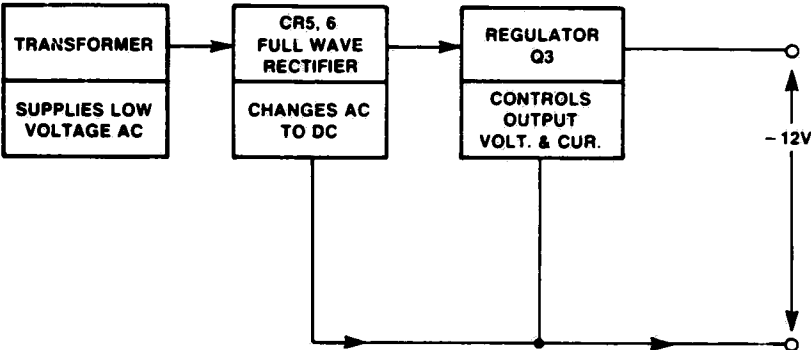

Figure 3-15. PRINTCON -12-VOLT POWER SUPPLY.
- 12 VDC at 0.1 amp, voltage regulated (Figure 3-15).
4. The -12 VDC power supply operates by using voltage from the full wave rectifier (CR5 and CR6) which is filtered by C4. This filter circuit provides voltage to integrated circuit regulator Q3, through fuse F3, which regulates the output voltage (Figure 3-15).